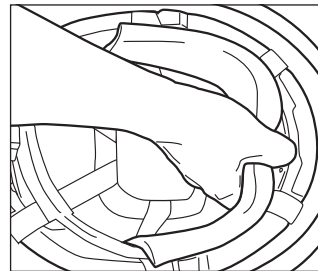

Figure 3
- Or, place a flat head screwdriver between helmet and liner and carefully “pop” the liner out. Take care not to damage the liner in this process (Figure 3).